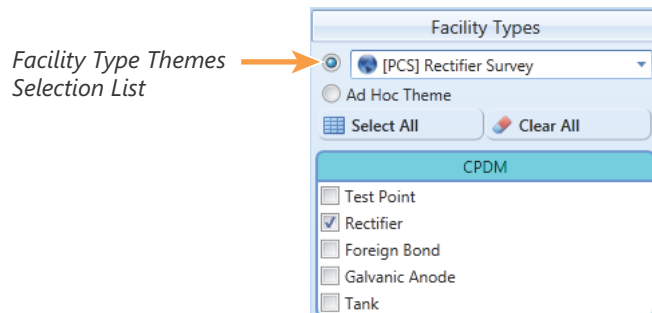

Figure 7-8. Facility Type Theme Option
- a To select a facility type, click the facility type option button and then click the down arrow and select a facility type in the list, such as **[PCS] Rectifier Survey** (Figure 7-8).